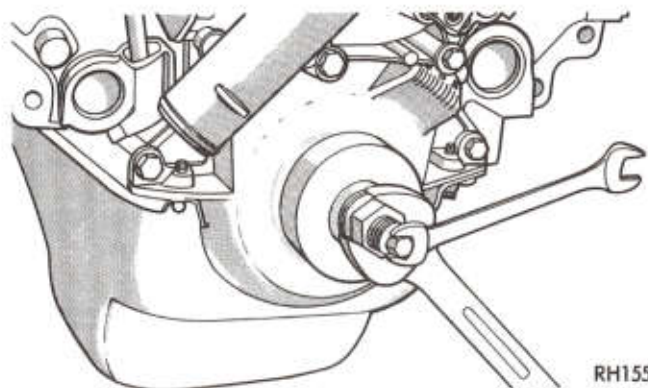

Fig. 29—Installing Oil Seal
- (1) Install new seal by installing the threaded shaft part of tool (C-4251) into the threads of the crankshaft.
- (2) Place seal into opening with seal spring towards the inside of the engine.
- (3) Place the installing adapter C-4251-3 with the thrust bearing and nut on the shaft. Tighten nut until tool is flush with the timing chain cover. (Fig. 29).